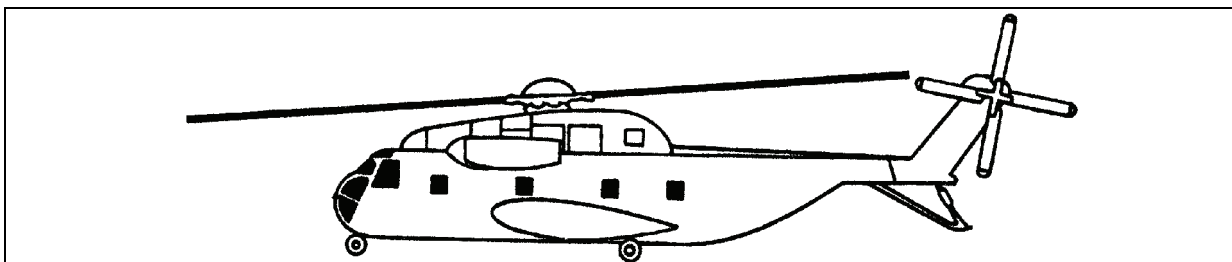

Figure 2-16. H-53 A/D Stallion
- **H-53.** The H-53 Stallion (Figure 2-16) is a twin engine, single main rotor helicopter produced by Sikorsky Aircraft. Its primary mission is to either aerial deliver supplies and equipment or conduct airborne mine countermeasures (mine sweeping).